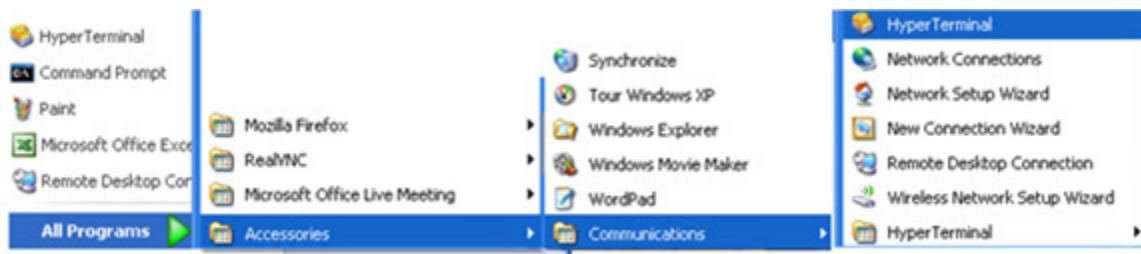

Figure G-8. Launch HyperTerminal application
- Open the HyperTerminal application as shown in Figure G-8.